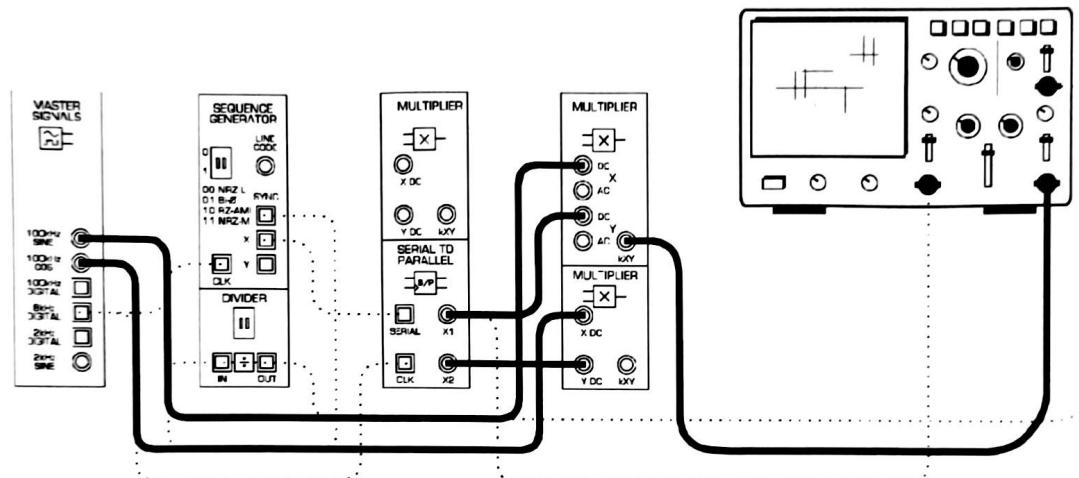

Figure 5
11. Modify the set-up as shown in Figure 5 below.